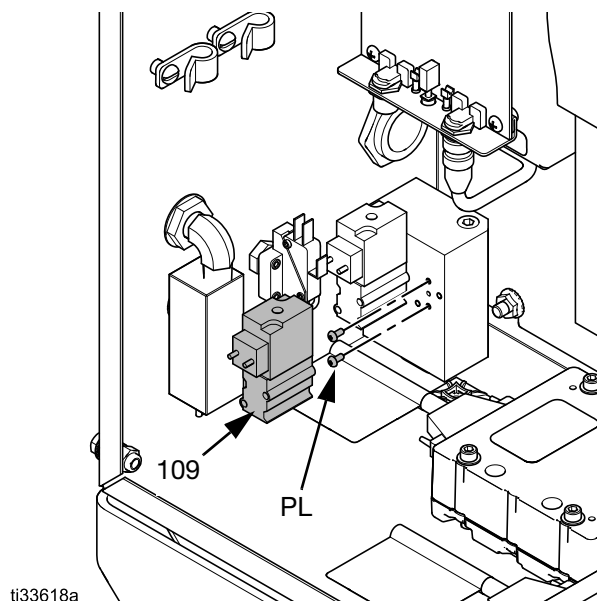
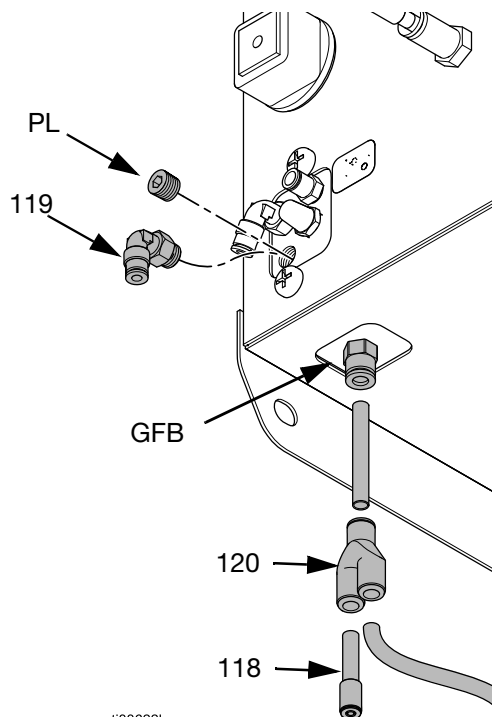

FIG. 18: Install GFB Solenoid
FIG. 19: GFB Solenoid Connections
NOTE: Each gun flush box includes one solenoid (109). Install the solenoid onto the air supply manifold block, as shown in FIG. 18 and FIG. 19.
2. Remove two plugs (PL) from the manifold block where the solenoid valve will be installed.
3. Install solenoid valve (109) in the correct position as shown in FIG. 18. Secure with the two screws supplied.